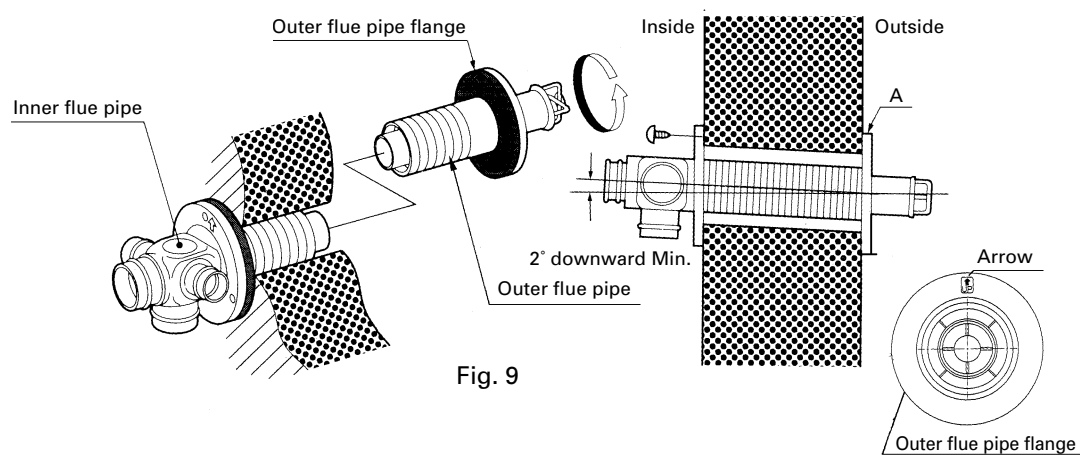

Fig. 9
c. From outside, insert the outer flue pipe through the hole. Secure the outer flue pipe to the wall by turning it clockwise. This locks the two halves together (See fig. 9).
**IMPORTANT:** Make sure the arrow on the outer flue pipe flange is pointing up. Make sure to secure the outer flue pipe well. (A-part shown in Fig. 9)